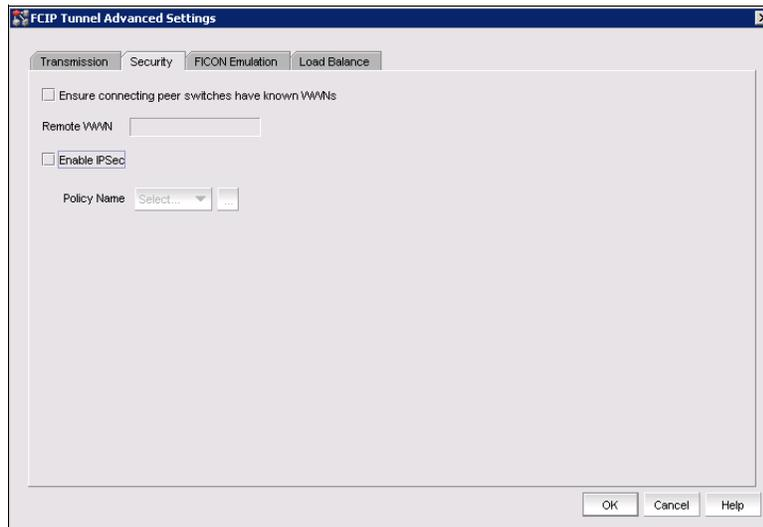

Figure 4-16 IPsec setting for FCIP
4. Select **Enable IPsec** (Figure 4-16).